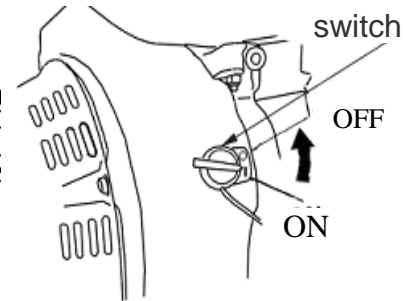

Fig 4-18
3.2.3 Turn the engine switch to the "OFF" position. ( Fig 4-18 )